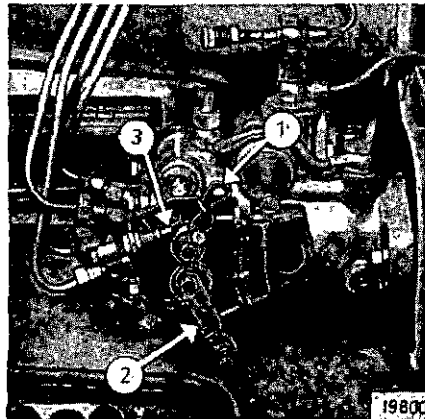

Fig. 6
2. With speed control lever 2 in idling position, pull start/stop lever 1 (Fig. 6) to first detent (2/3 and hold).